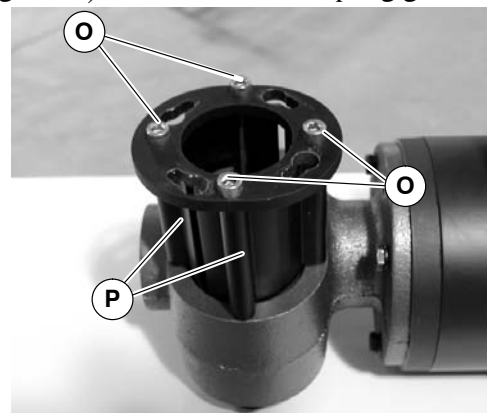

Figure 10
3. Remove the four (4) coupling spacer screws (O of Figure 10) and remove the coupling guards (P).
- Install coupling spacer (P of Figure 10) to gearmotor (S) and tighten screws (O) to 110 in-lb (12 N-m).